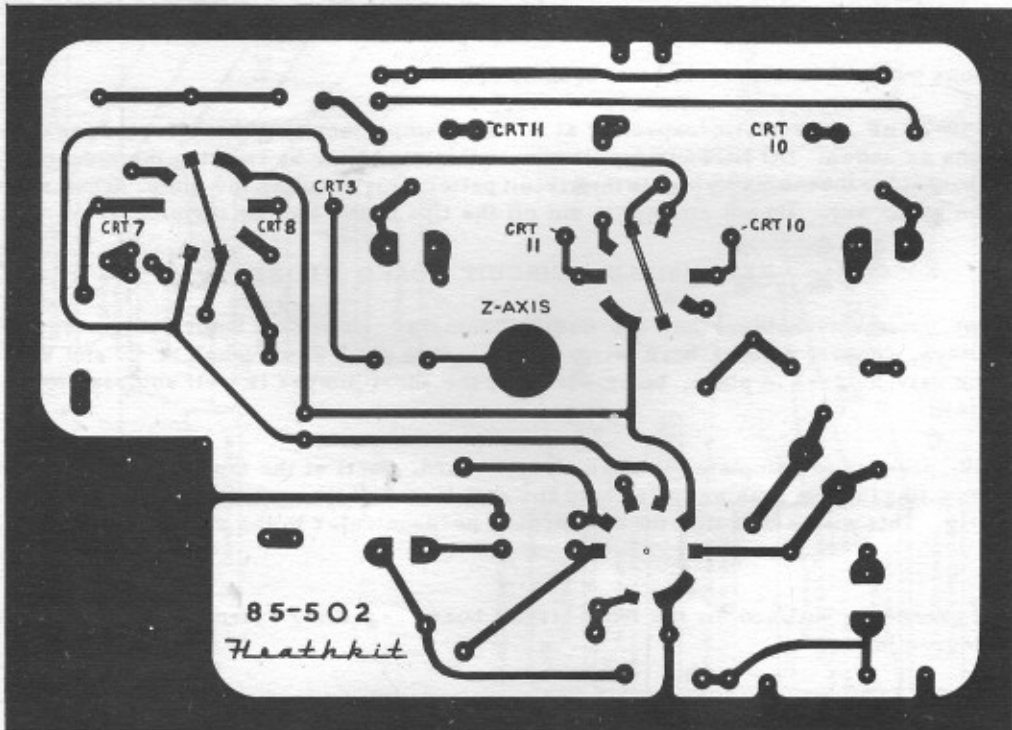

FIGURE 18.
- () Mount the three 9-pin valveholders and fan out the contacts. However, before soldering the valveholders to the circuit pattern, connect a short bare wire from pin 3 to pin 8 of valveholder V3 and V7. See Figure 18. Then solder the valveholders in place, being sure that the short jumper is well soldered to the contacts and to the circuit pattern.
- () Assemble the Z-axis BLACK terminal to the circuit board using the 4BA clearance hole provided. The body of the terminal goes on the foil side of the circuit board. Use a 4BA nut and lockwasher on the phenolic side. (See Figures 18 and 28.) NOTE: The two insulating bushes are NOT used in this instance.